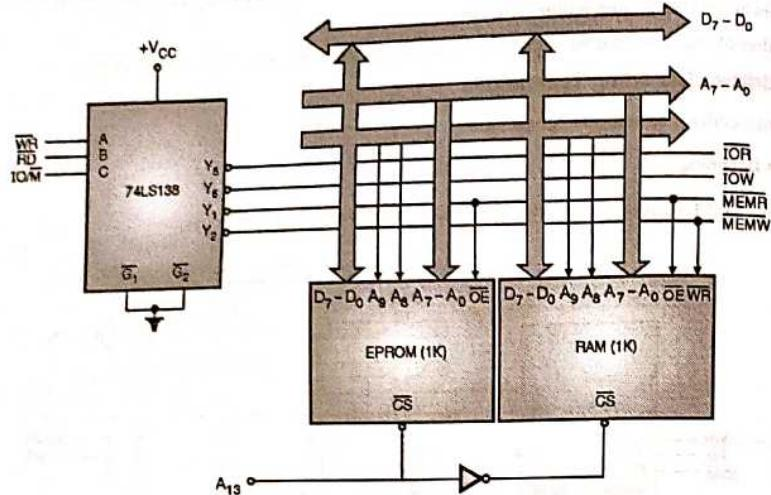

Fig. 11.3.2 : Linear Decoding Technique
- Fig. 11.3.2 shows the addressing of RAM and EPROM with linear decoding technique.